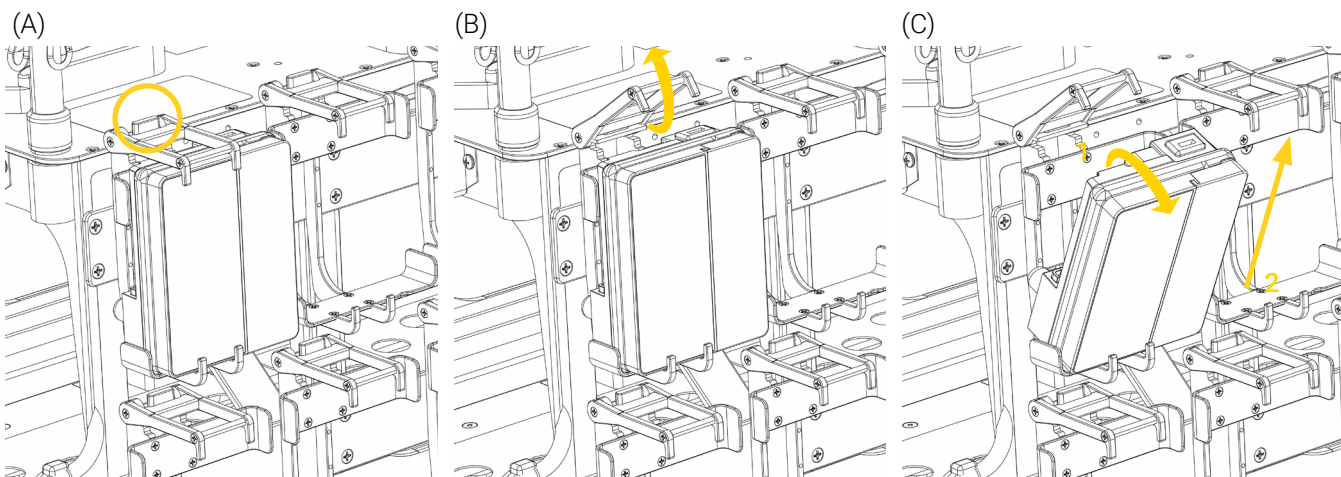

Figure 16: Removing the infusion pump
1. Pull the quick release mechanism on the pump bracket forward (Figure 16 A), then lift the top part of the bracket to open it (Figure 16 B).
2. Tilt the pump forward, then pull out the pump to remove it (Figure 16 C). Set the pump aside.